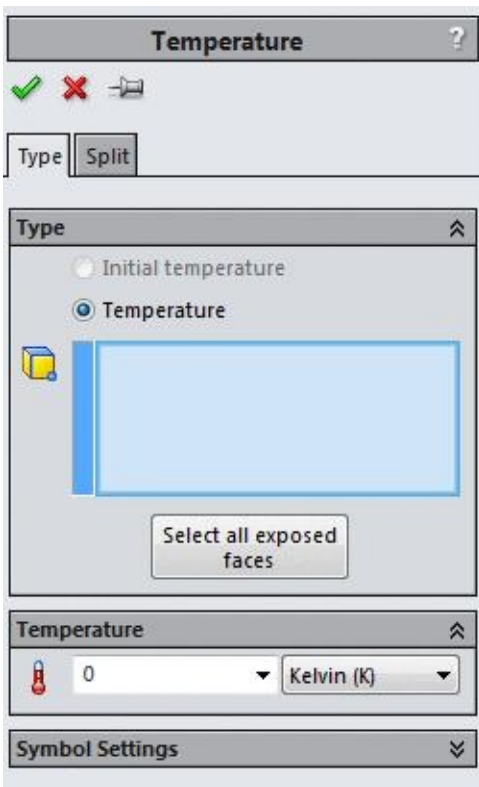

Figure-14. Temperature PropertyManager
- Click on the down arrow below **Thermal Loads** button and select the **Temperature** button from the list. The **Temperature PropertyManager** will be displayed as shown in Figure-14.